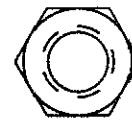

Fig. 28 - Hex Nut for Leveling Foot
14. Put a *hex nut* on one of the *leveling feet* and hand-tighten. (Figure 28)